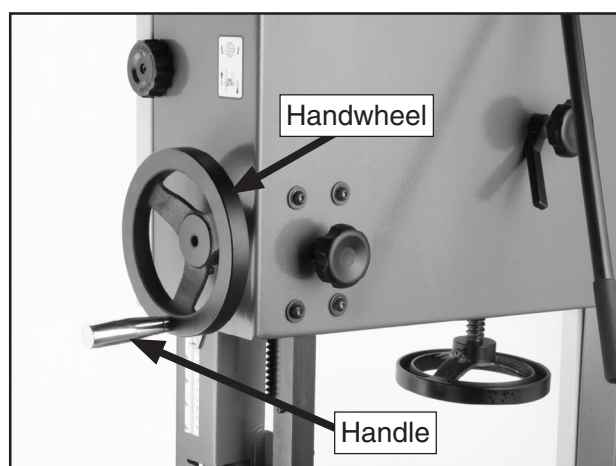

Figure 16. Handwheel correctly installed.
1. Slide the handwheel (**Figure 16**) on to the shaft.